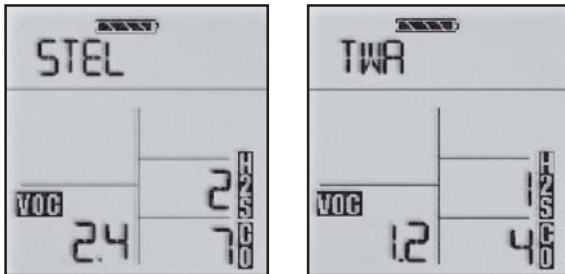

Figure 12:
4.2.3 Short Term Exposure Limits (STEL) (Figure 12)
4.2.4 Time Weighted Average (TWA) (Figure 12)